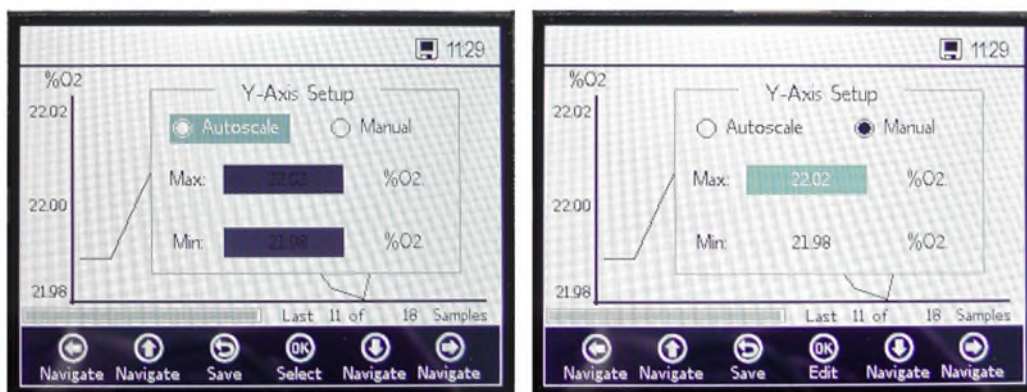

Figure 31. Y-Axis setup: Autoscale, ...and Manual setting
2. Select **Autoscale** or **Manual** setting of the maximum or minimum values displayed on the Y-Axis. Refer to Figure 31. Autoscale will automatically set the maximum and minimum values according to the preset measurement values.